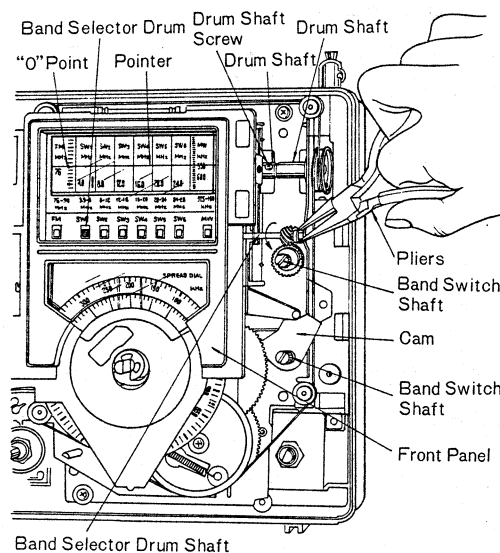

Fig. 8
2. Set the band switch shaft of dial drive assembly at the position, as shown in fig. 8.
3. Set the "0" point of dial scale to pointer of front panel, as shown in fig. 8.
6. Turn the shaft of band selector drum with a pliers and set the indicator of band selector drum to "SW₁" position, as shown in fig. 8.
3. Loosen the one (1) screw for the drum shaft, as shown in fig. 8.
8. Turn the roller gear, shown in fig. 12 and set the "0" point of dial scale to the pointer of front panel, as shown in fig. 8. Tighten the one (1) screw for the drum shaft, as shown in fig. 8.